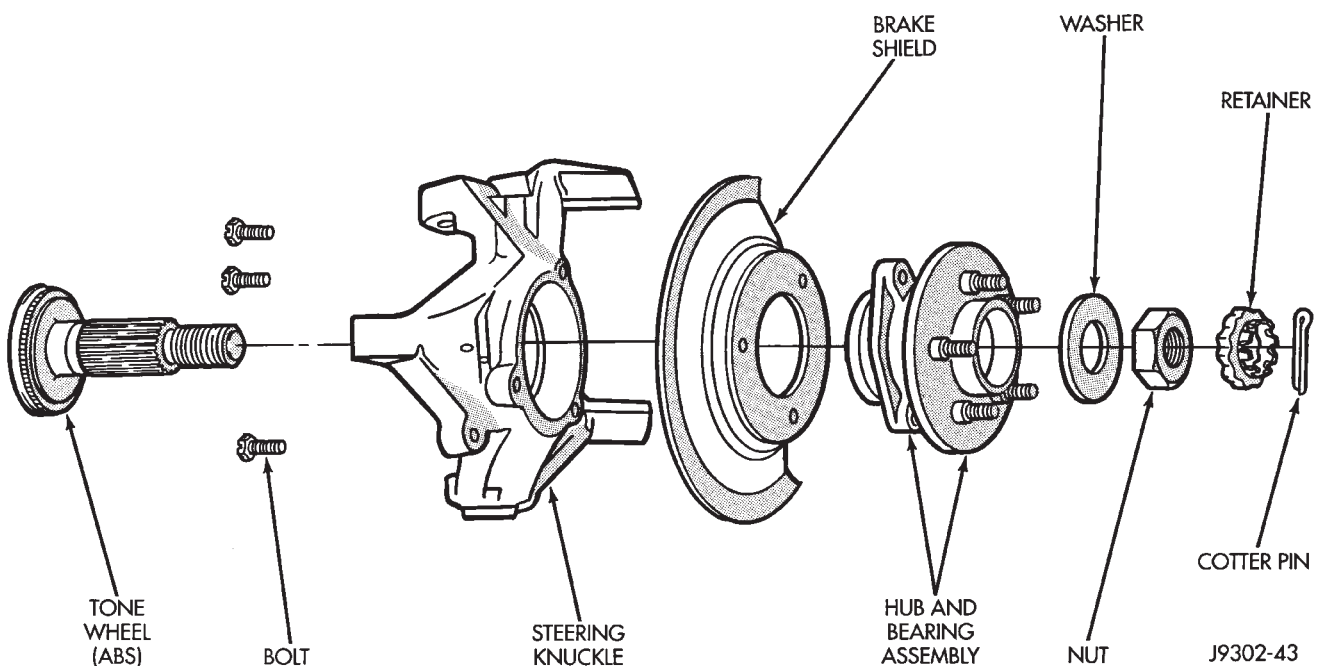

Fig. 9 Hub Bearing &amp; Knuckle
- (4) Remove the cotter pin, nut retainer and axle hub nut (Fig. 9).
- (5) Remove the hub mounting bolts and remove hub bearing from the steering knuckle and axle shaft.